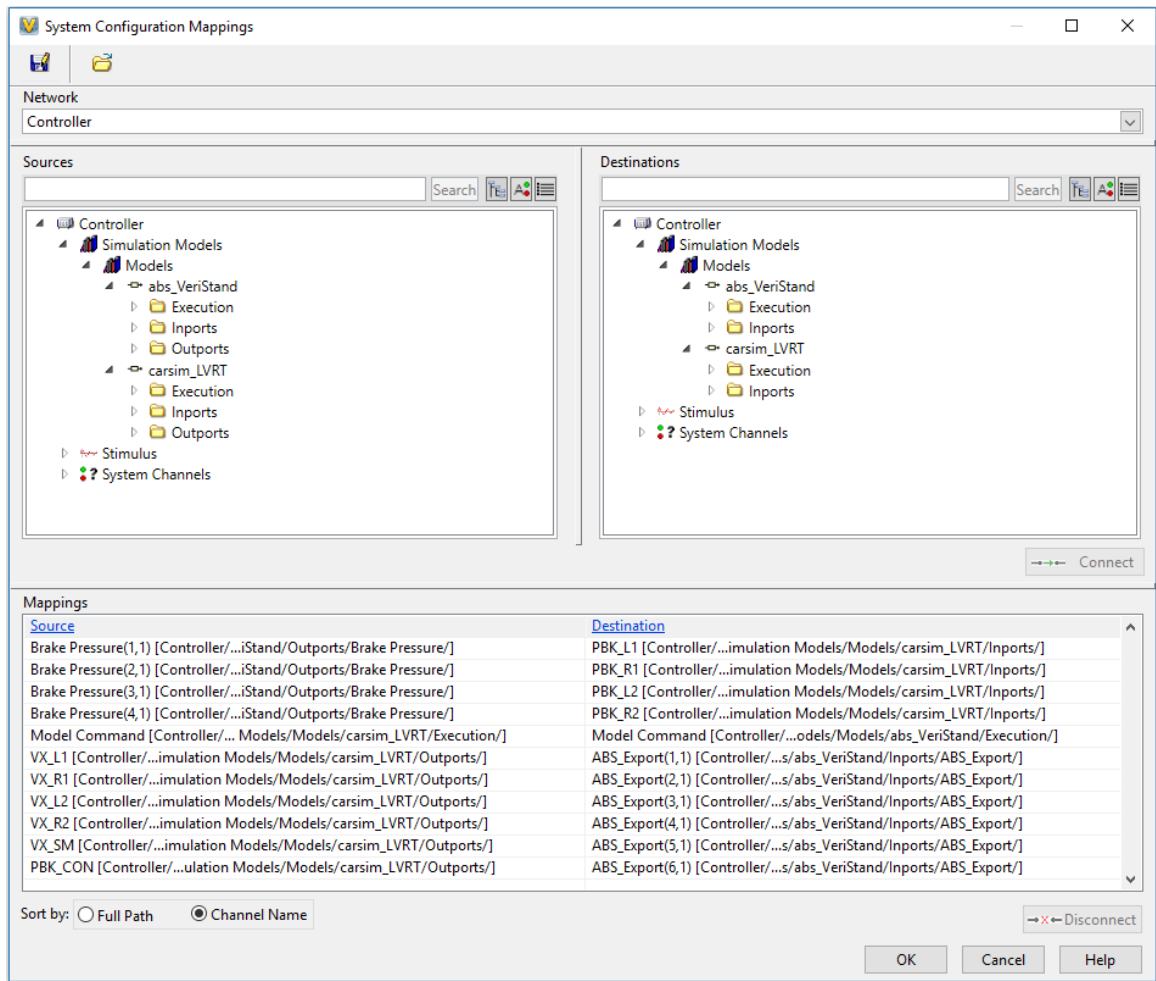

Figure 28. VeriStand System Configuration Mappings.
- Now, since you have two models, you need to connect them so that they can interact. From the main menu, go to **Tools Edit**→**Mappings**. This will open the System Configuration Mappings window (Figure 28).
10. To connect two variables, click one of them in the **Sources** section and the other in the **Destinations** section, and then click the **Connect** button (Figure 28).